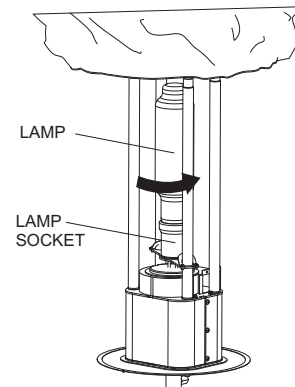

Figure 38. Removing Lamp
5. Remove the lamp from the lamp socket by turning lamp counterclockwise. See Figure 38.